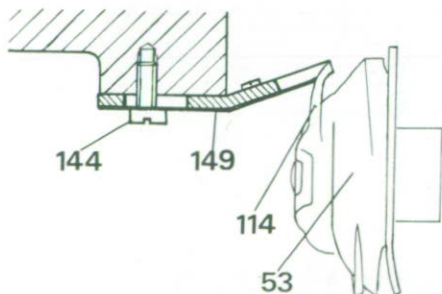

Fig. 31
It should be ensured that the needle bar is not twisted. Check with a Duo-needle (double-needle). Following adjustment of needle and hook, the case stopper (149) for the bobbin case holder (114) should be secured on the machine and moved forwards until the lower edge of the bobbin case stopper of the bobbin case holder intercepts on both sides (Fig. 31).